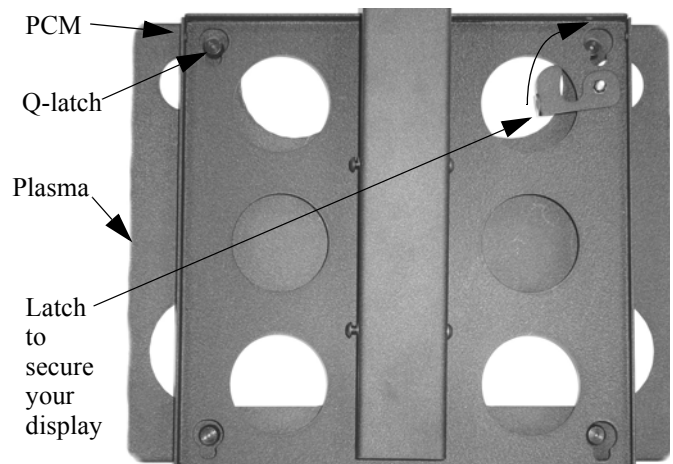

Figure 3. Mounting
3. Make sure the mount is level (see ADJUSTMENTS, Roll) and latch is positioned so it will not obstruct plasma installation (see Figure 3).